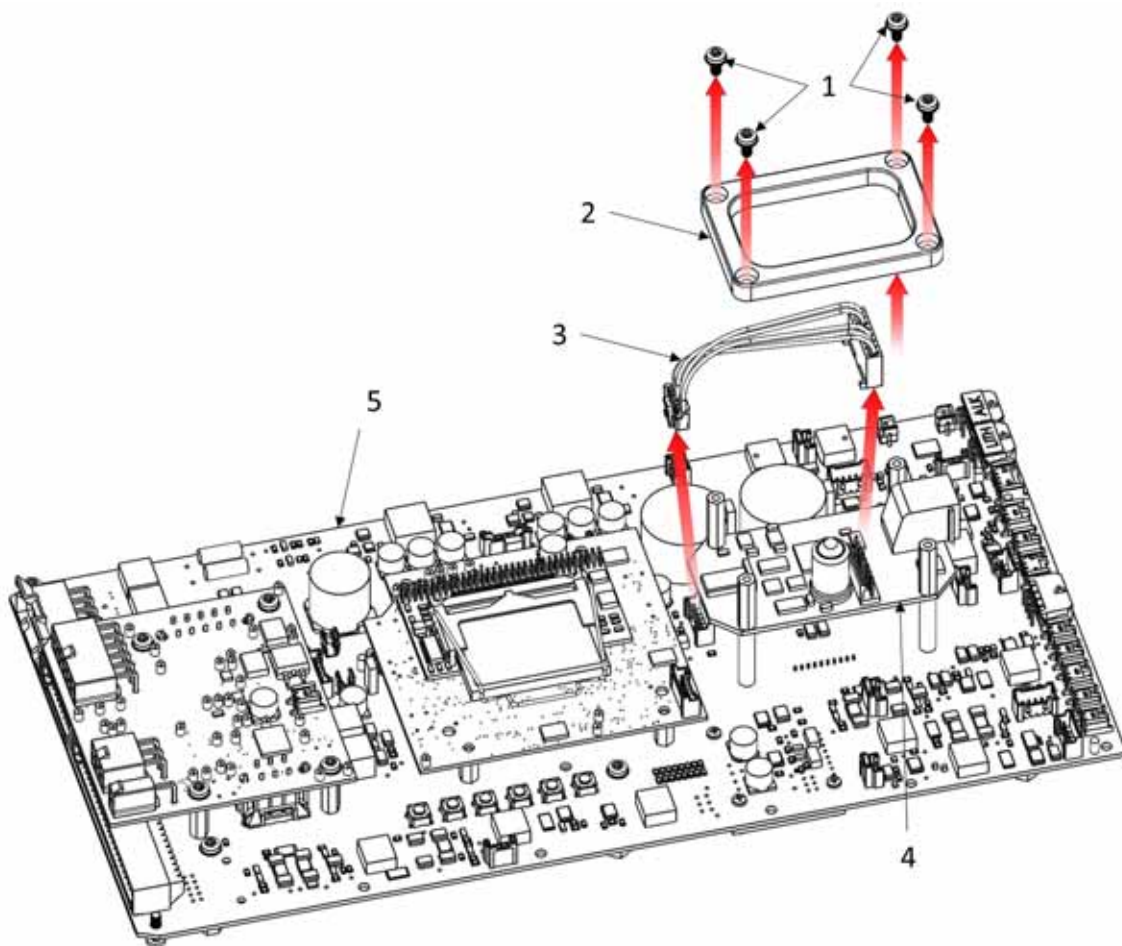

Figure 2-26 Attitude sensor wiring.
1. Remove the four screws (Figure 2-26, item 1) holding the attitude sensor bracket (Figure 2-26, Item 2) in place.
2. Disconnect the attitude sensor wiring harness (Figure 2-26, Item 3) from the glider main board (Figure 2-26, Item 5) and the true north attitude sensor (Figure 2-26, Item 4).
3. Remove the attitude sensor wiring harness (Figure 2-26, Item 3).
1. Connect the attitude sensor wiring harness (Figure 2-26, Item 3) to the true north attitude sensor (Figure 2-26, Item 4) and the glider main board (Figure 2-28, Item 5).
2. Install the four screws (Figure 2-26, Item 1) to hold the attitude sensor bracket (Figure 2-26, Item 2) in place.